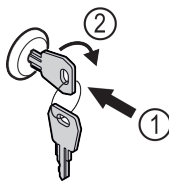

Fig. 159
- ▶ Insert the key. Fig. 159 (1)
- ▶ Turn the key clockwise by 90°. Fig. 159 (2)